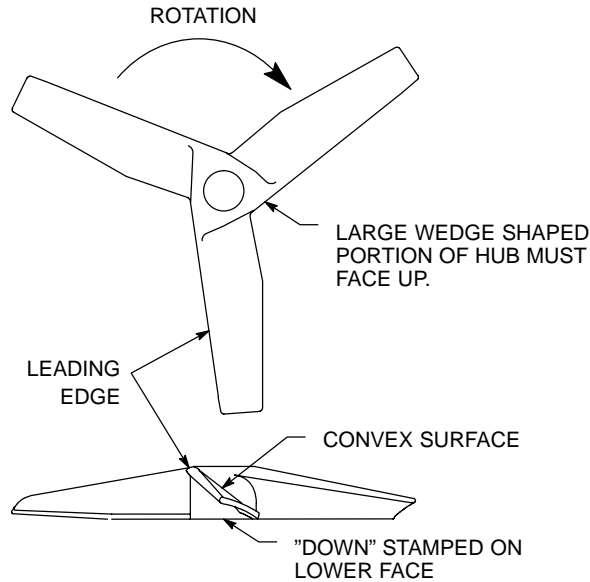

FIGURE 2 – IMPELLER ORIENTATION
2.9 Position the impeller(s) on the mixer shaft. Refer to the specification sheet for recommended dual impeller spacing. The larger wedge shaped portion of the hub body must face up towards the mixer. The bottom of the hub is stamped "DOWN". Refer to Figure 2 for general orientation reference. Tighten impeller set screws securely. For unusually severe conditions, the shaft should be spotted for the set screws.